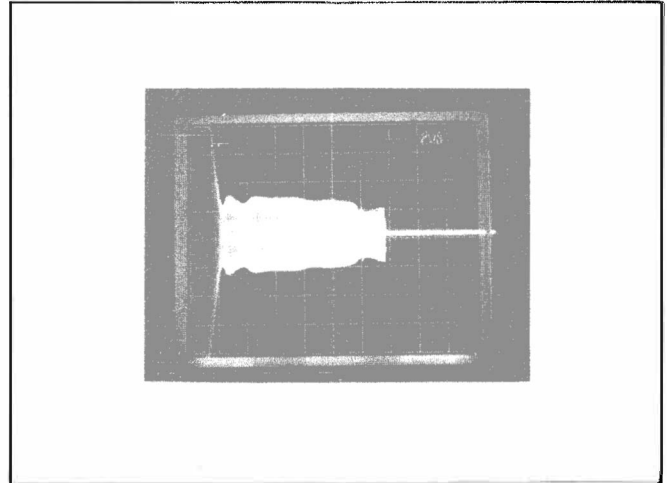

Fig. 4-6. Current waveform at T1230 showing burst operation at line voltage of approximately 60 volts.
4. If the 7904 continues in the pulse mode or to open the line fuse, check the current waveform through T1230. To do this, first repeat part 1 of this step. Then connect a current probe from the test oscilloscope to the gray lead that passes through toroid transformer T1230. Set the test oscilloscope for a vertical deflection factor of about 1 volt/division and a horizontal sweep rate of 12 milliseconds/division. Connect the 7904 power-cord plug to the variable autotransformer which is set for a voltage of 0. Turn the 7904 on and slowly increase the variable autotransformer's output to about 60 volts. Check for a burst waveform on the test oscilloscope (similar to that shown in Fig. 4-6).